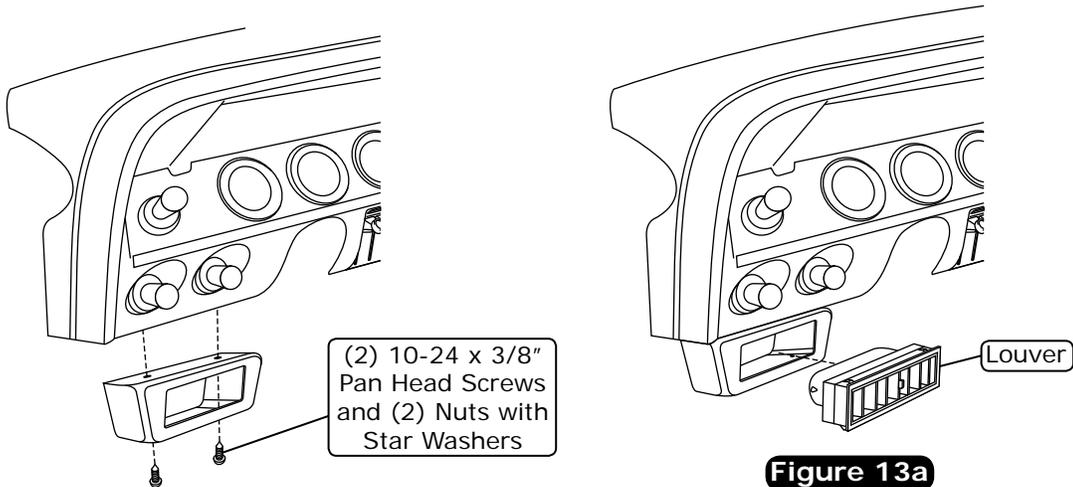

Figure 13
2. Secure the louver bezel under the dash using (2) 10-24 x 3/8" pan head screws and (2) 10-24 nuts with star washers (See Figure 13, below).